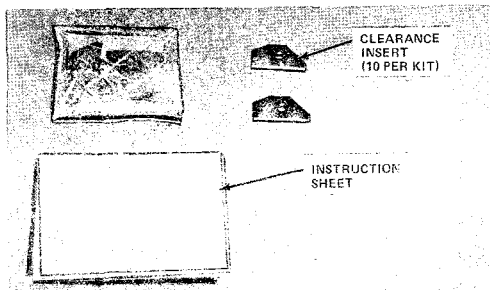

Fig. 10—♦Kit of Parts D-181225♦
- (2) Kit of Parts D-181225 (Fig. 10) consists of 10 clearance inserts for cover half.